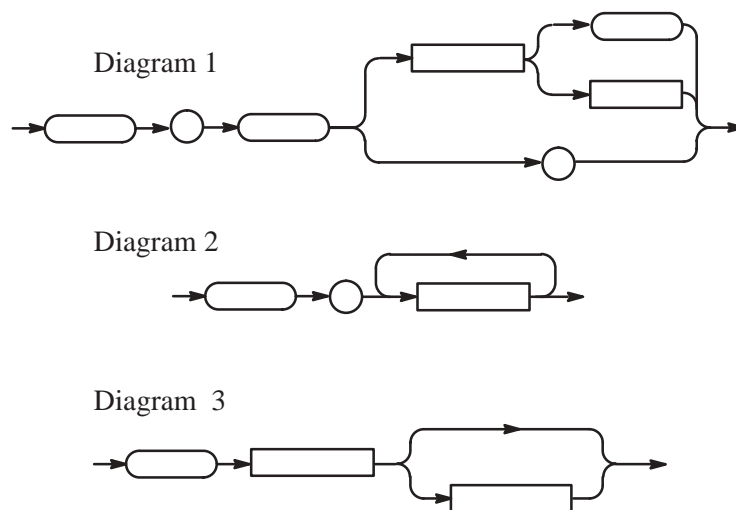

Figure 2–5: Typical syntax diagrams
The syntax of each command and query is explained by both syntax diagrams and BNF notation. Figure 2–5 shows some typical syntax diagram structures. The syntax diagrams are described by the following symbols and notation:
- Parallel paths show that only one of the paths can be taken in the command. See diagram 1 in Figure 2–5.
- A loop around an element(s) shows the element can be repeated. See diagram 2 in Figure 2–5.
- A path around a group of elements shows that those elements are optional. See diagram 3 in Figure 2–5.